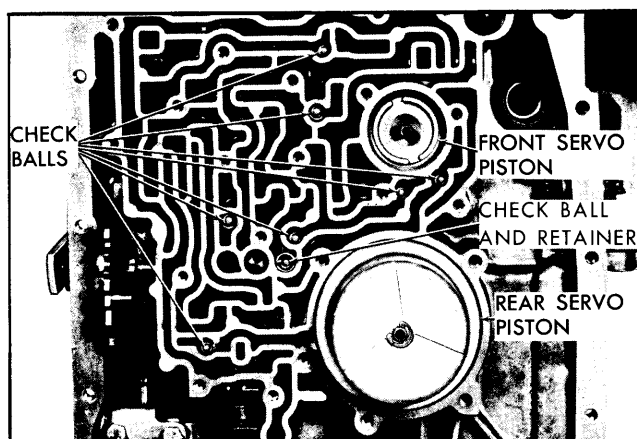

Fig. 7E-11 Location of Check Balls
13. Check balls (7). See Fig. 7E-11 for proper location.